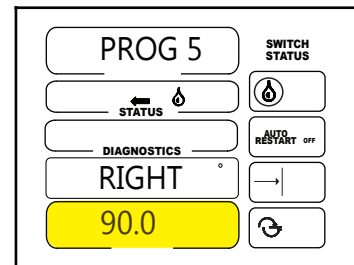

Figure 62-4
4. Set the right angle of the sector. See figure 62-4.